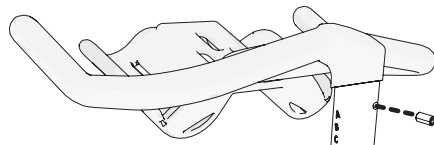

Figure 9
2. Insert a set screw ⑥ into the opposite side of the handlebar post (Figure 9) and tighten it using a hex key ⑨.